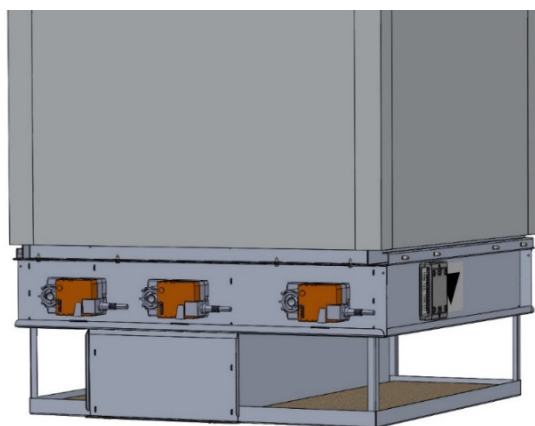

Figure 49 – Internal diffuser position.
2. Then secure into place using the pre-fitted screws – see figure 49 and 50.